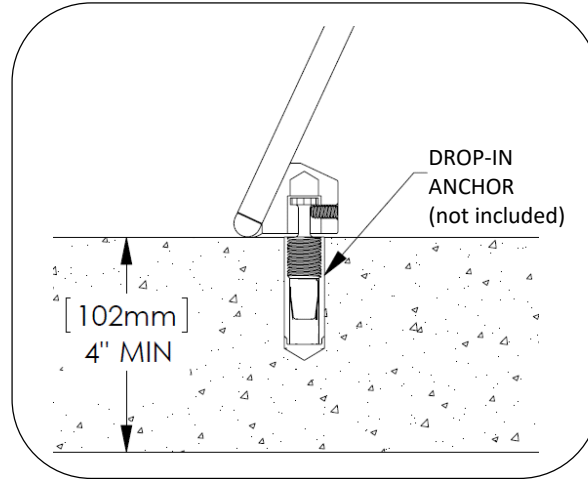

Fig. 2
2. Thread surface mount bolt into casting leg (2) places, as shown in Fig. 2.
2. After proper curing time, set bench over surface mount bolts and install set screws as shown in Fig. 2.